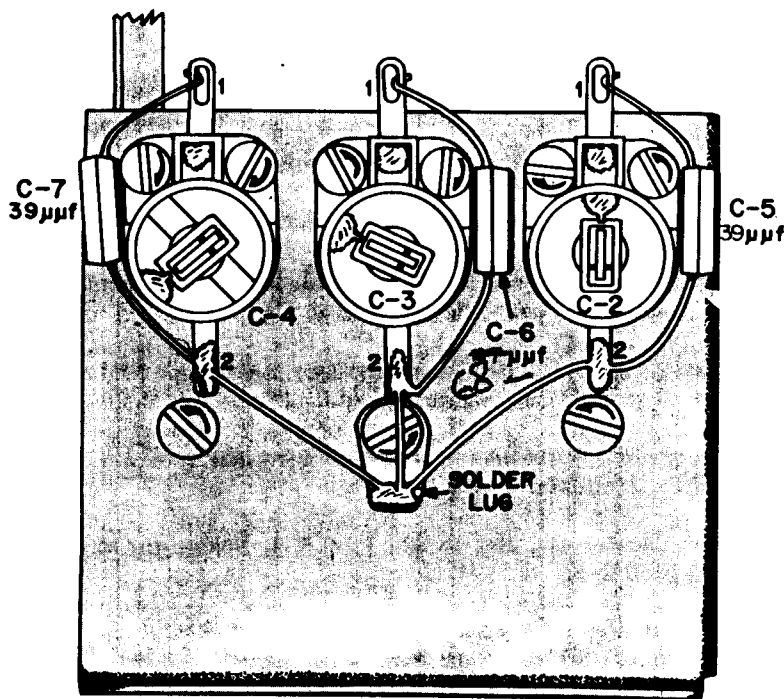
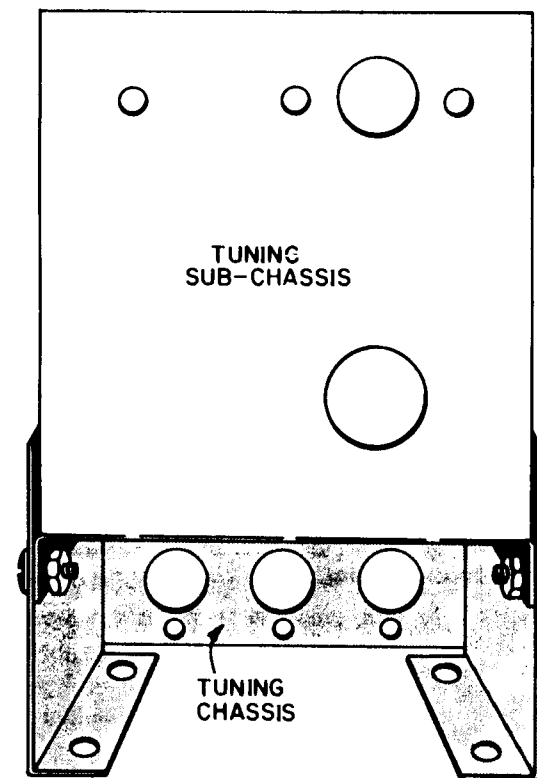

FIGURE 17. FIRST WIRING ON THE TUNING CHASSIS
FIGURE 18. TUNING CHASSIS ASSEMBLY
SEE FIGURE 17.
- ☒ Tuning chassis, tuning sub-chassis and a #6 solder lug. Assemble with six 6-32 x $\frac{1}{4}$ " screws, lockwashers and nuts as shown in Figure 18. See Figure 17 for location of the solder lug.